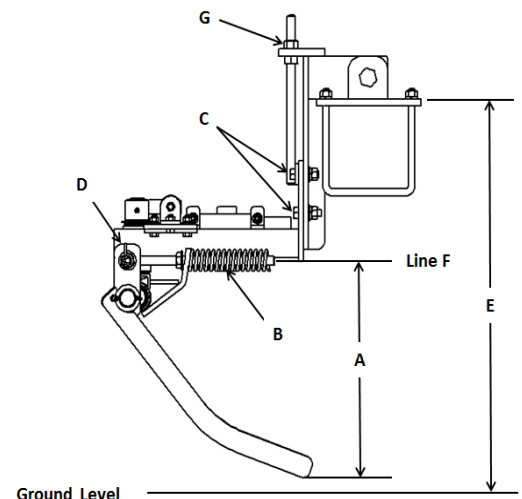

Figure 30: Row Finder Adjustment- Right Side View
Likewise, the row finder wands should be angled down when lifted out of the ground as shown in Figure 30. Dimension (A) can be adjusted using nuts (D):
1. To increase distance (A), adjust nuts (D) along line (F) toward the rear of the machine.
2. To decrease distance (A), adjust nuts (D) along line (F) toward the front of the machine.